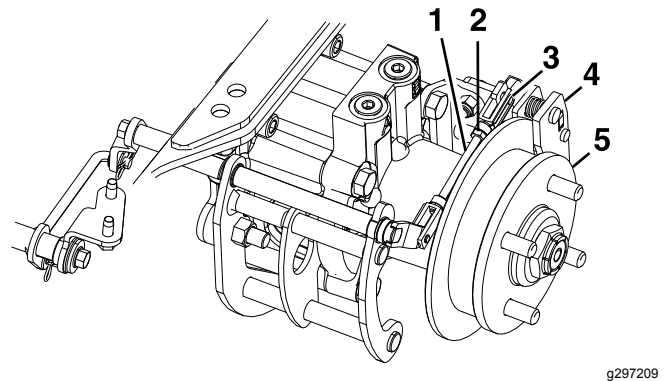

Figure 73
8. Remove the spring clevis pin from the rear linkage and caliper (Figure 73).
12. Tighten the jam nut on the rear linkage (Figure 73).